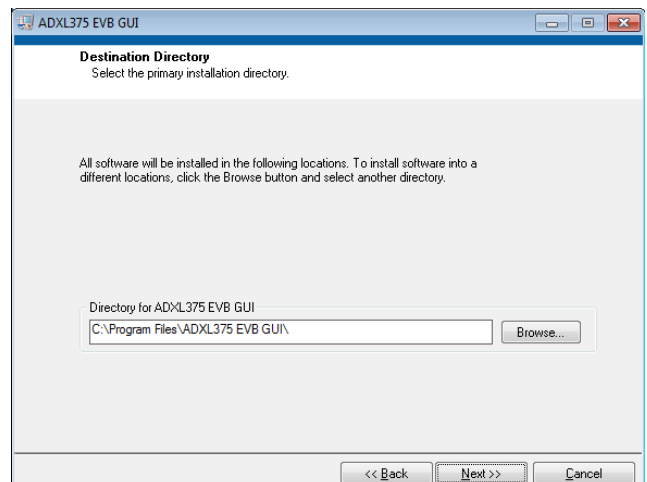

Figure 11. ADXL375 EVB GUI Destination Directory Selection
1. Select the destination directory. The installer autopopulates the names of the directories in which to store the software GUI and required National Instruments products (see Figure 11). You can change these directories; however, most installations can proceed with the default values.